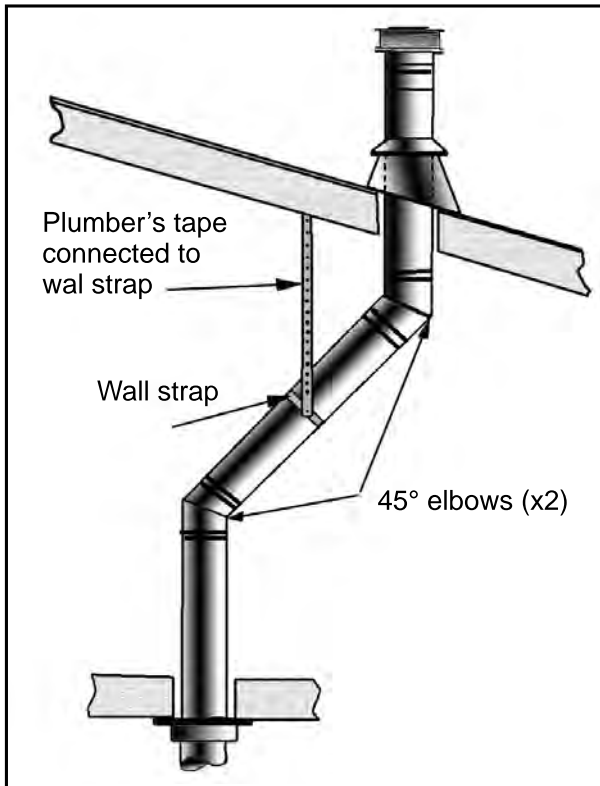
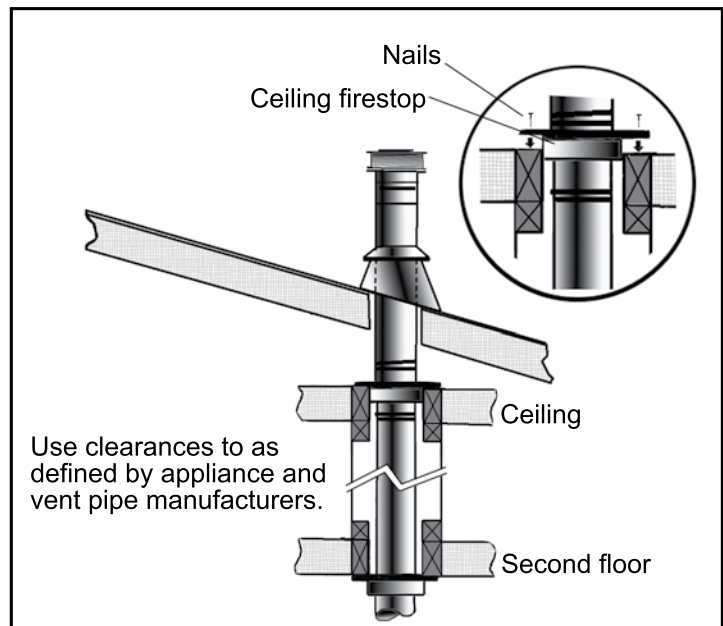

Figure 65: Use of Wall Straps.
Figure 66: Multi-Story Vent Pipe Installation
- (1) If an offset is necessary in the attic to avoid obstructions, it is important to support the vent pipe every **3' (914 mm)**, to avoid excessive stress on the elbows, and possible separation. Wall straps are available for this purpose (see Figure 65).
- (2) When ever possible, use 45° degree elbows instead of 90° degree elbows. The 45° degree elbow offers less restriction to the flow of flue gases and intake air.
- (3) For multi story installations; a ceiling firestop is required at the second floor, and any subsequent floors (see Figure 66). The opening should be framed to **10" (254 mm) x 10" (254 mm)** inside dimensions, in the same manner as shown on page 40.